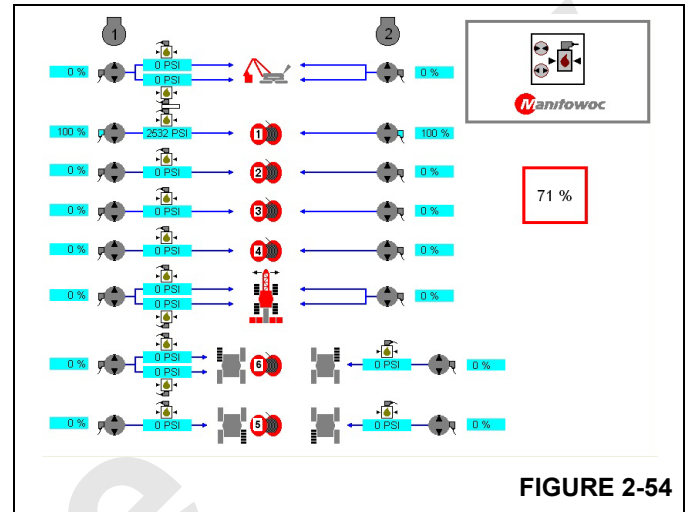

FIGURE 2-54
9. Press  to start the High Pressure Test. (Figure 2-54).